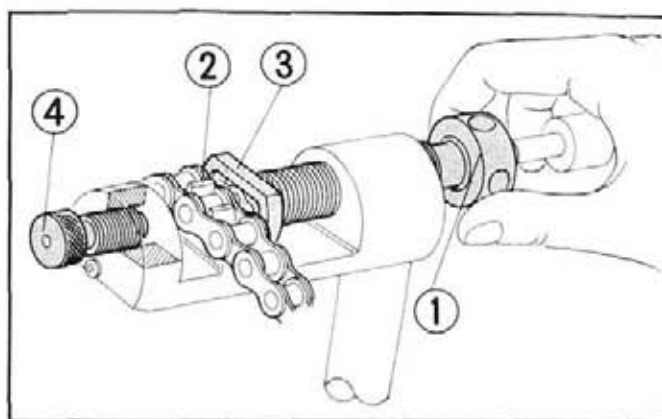

Fig. 20-35 ① Pressure bolt ③ Pressure holder
1. Position chain link pin to be cut on chain holder in place as shown in Fig. 20-35. Screw in pressure bolt until pressure holder holds chain in position. Back off adjuster bolt so that it does not interfere with chain.